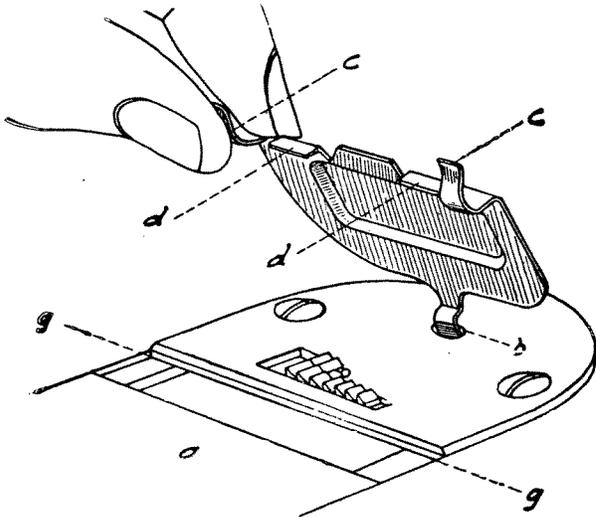

Fig. 14
Open slide **a**, insert the auxiliary sewing plate with its rear notch into recess **b** of the needle plate, so that the two angular parts **d** will close the needle plate along line **g**...**g**. Close slide **a** and be sure that notches **c**...**c** come to lie beneath the slide (See fig. 14).
1. **When darning** place stitch regulating screw on point C. But it is quite better to use the supplied feed cover plate (fig. 14) to avoid cutting of the soft darning yarn by the teeth of the feed dog.